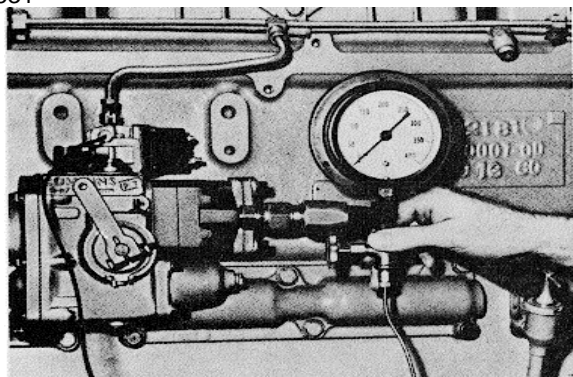

Fig. 531, F5178. Checking fuel manifold pressure
b. To take snap pressure readings, attach the ST435 pressure gauge at the shutdown valve in the usual manner. Fig. 531